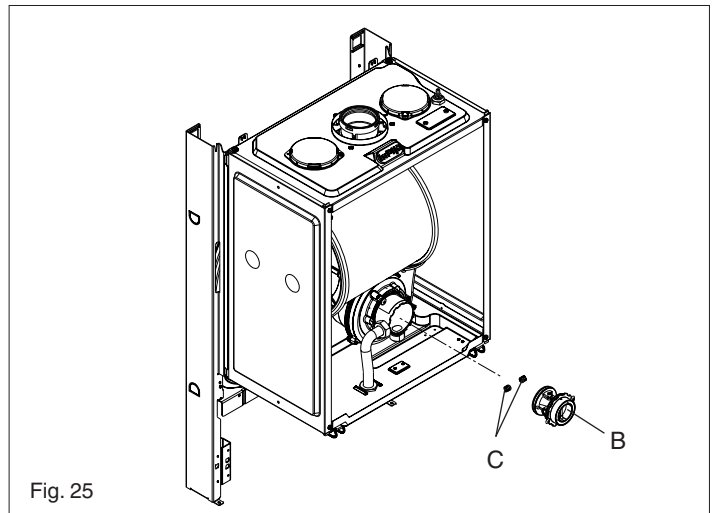

Fig. 25
Carry out component removal procedure as described in 6.4. The gas valve must be changed as complete unit. Disconnect the electrical plug and leads from the gas valve, loosen and unscrew gas valve inlet (gas cock, fig. 14) and outlet (A, fig. 25) connections. **Please note**, the sealing washers (B) must be discarded and replaced with new sealing washers. Disconnect the compensation pipe (C). Locate and remove gas valve retaining screws (D) on the underside of the boiler if required, the gas valve can now be removed. Replace in the reverse order. Check and adjust burner pressure settings. **WARNING, A GASTIGHTNESS CHECK MUST BE CARRIED OUT.**
6.12.1 LPG NOZZLES (fig. 25)